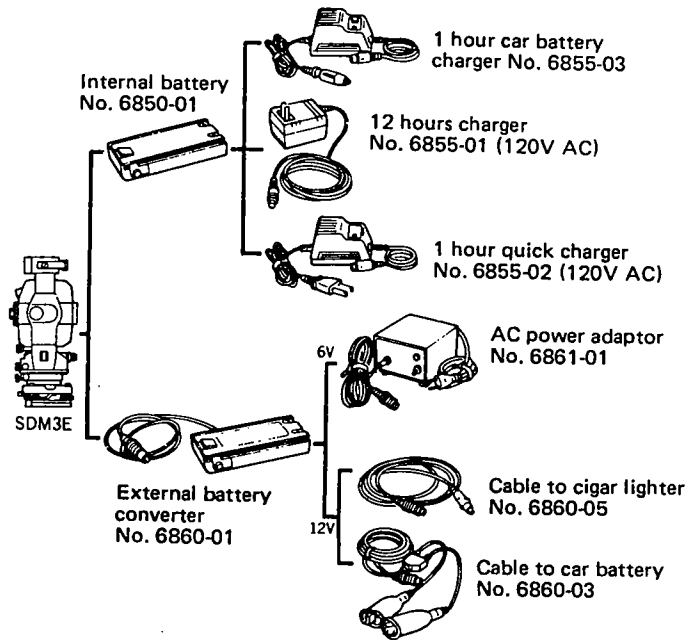

Fig. 94
- a. Make sure the power switch ❶ is OFF.
- b. Set the No. 6860-01 into the battery case ❷.
- c. Connect the No. 6860-01 to external power source, see Fig. 94.